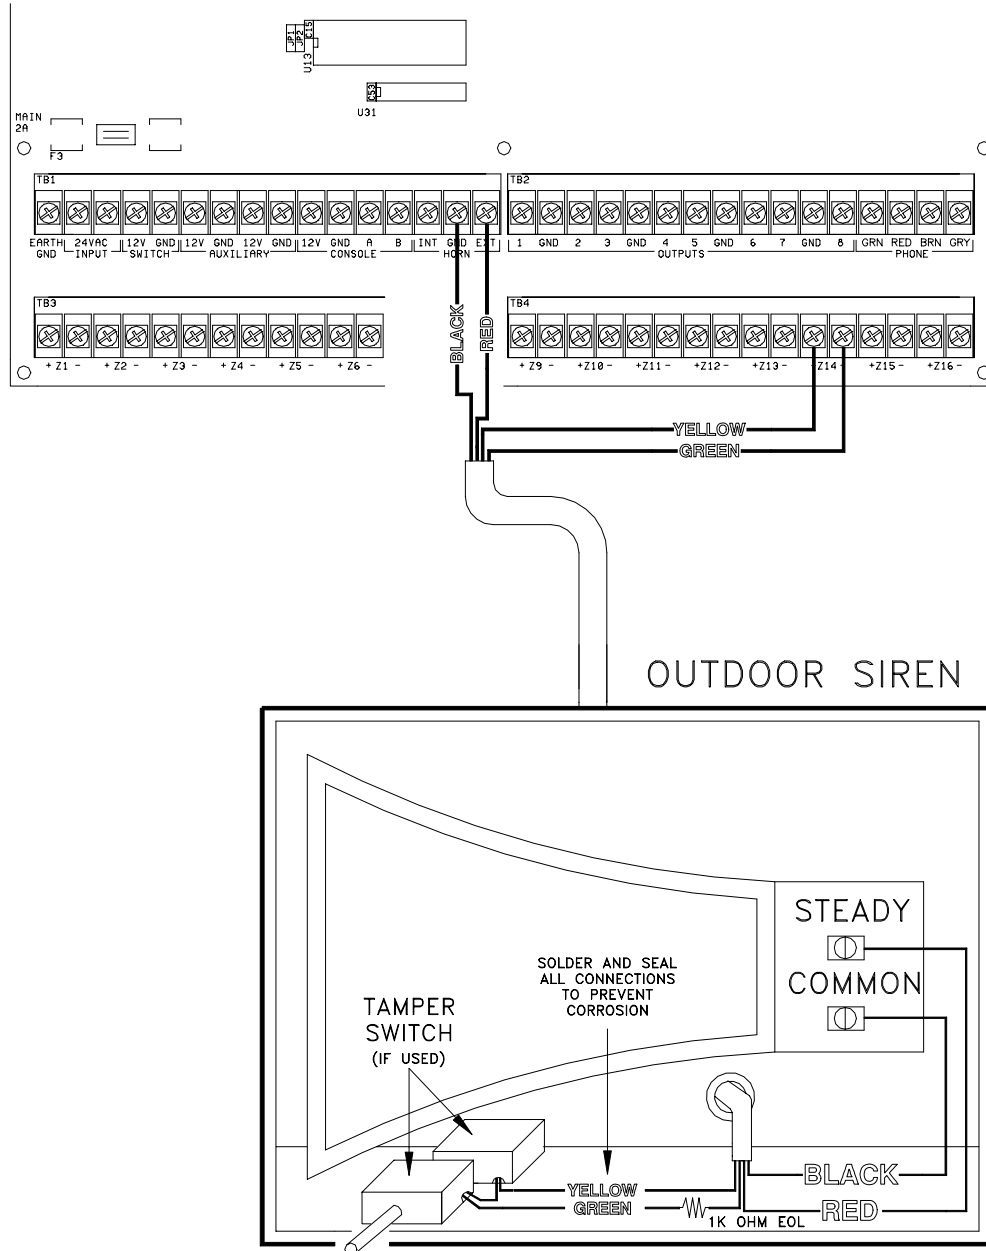

Figure 7 - Exterior Sounder Connections
2. Refer to **FIGURE 7 (EXTERIOR SOUNDER CONNECTION)** for connections.